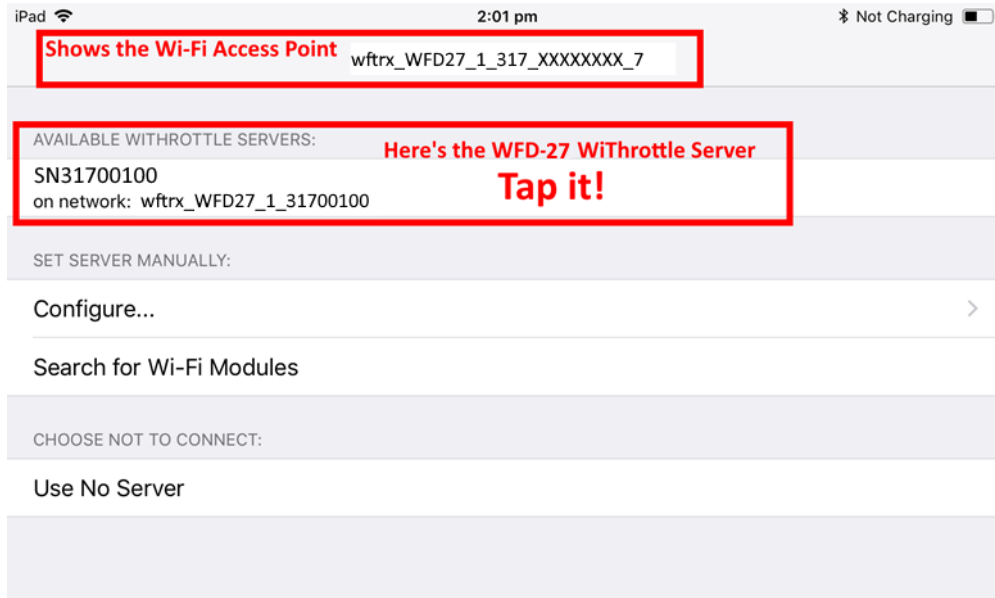

Figure 6 The WiThrottle app Server screen
- (8) You should see the connection screen headed by “wftrx_WFD27_1_XXXXXXX_7”. The WFD-27 is a WiThrottle Server and it should appear in the “Available WiThrottle Servers” section, identified by its serial number. If it is visible, tap it as Figure 6. You may sometimes need to wait a few moments or go back to the home screen and tap the WiThrottle icon again.